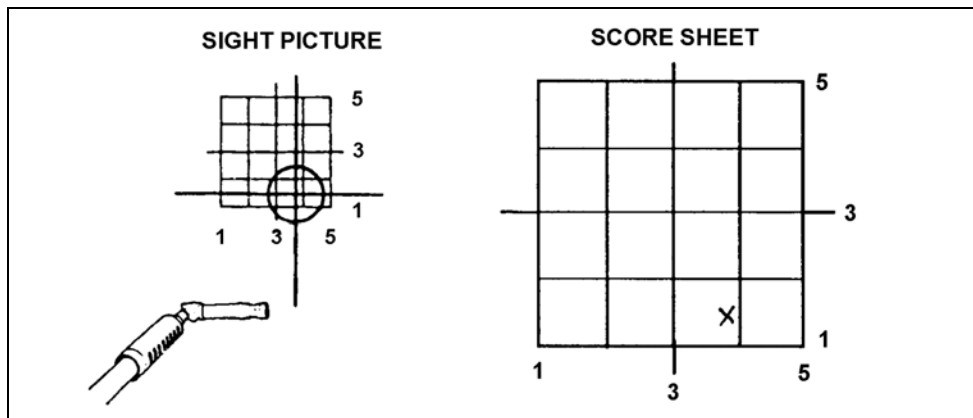

Figure B-20. Kit right aiming point.
(5) The telescope is now aiming at the center of the target, but if the boresighting equipment is inaccurate, the gun will not be aiming at the center of the target.
(6) Rotate the kit (telescope plus adapter) until the eyepiece faces to the right.
(7) Mark the aiming point on scoring grid 1 (Figure B-20).